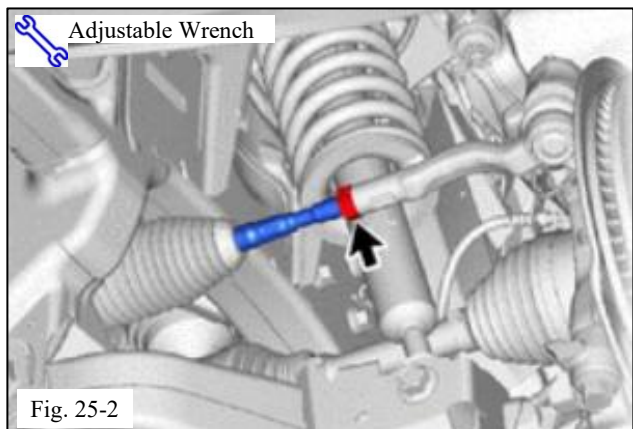

Fig. 25-2
- (1) Remove and retain the clip from the steering rack boot.
(2) Loosen the nut of the tie rod (Fig. 25-2).
(3) Turn both steering rack ends the same amount to adjust the toe.